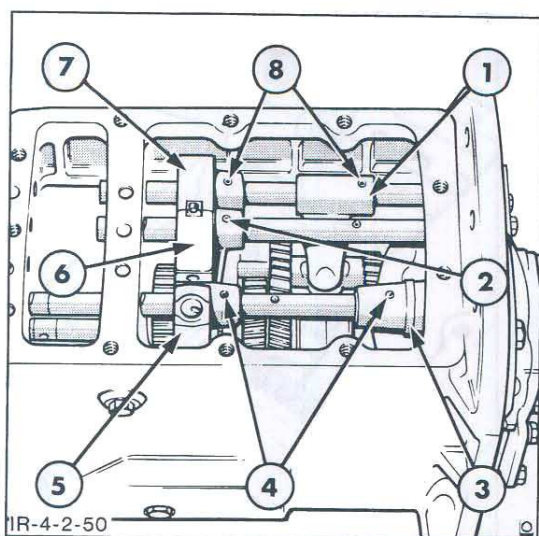

Figure 50
4. Using a suitable pin punch, remove the spring pins retaining the 1st/2nd gearshift gate and the gearshift selector arm, Figure 50.
6. Using a suitable pin punch remove the spring pins retaining the 3rd/4th gearshift gate and gearshift fork, Figure 50.
8. Using a suitable pin punch remove the spring pins retaining the H-L gearshift gate and gearshift fork, Figure 50.